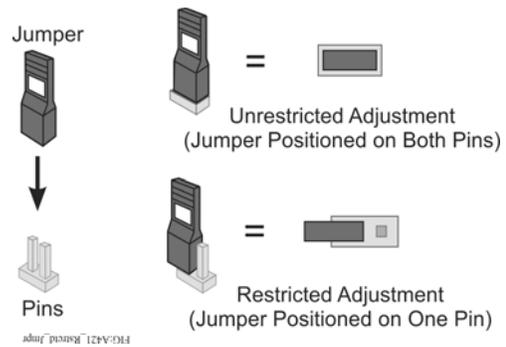

Figure 8: Repositioning the Jumper to Restrict Control Adjustment
1. Ensure that the A421 is not in the restricted mode (the jumper is positioned on both pins). See Figure 8.
4. Disconnect power to the control, remove the control cover, and reposition the jumper to one pin (Figure 8). Reconnect power.